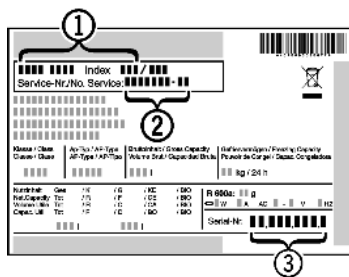

Fig. 52
- ▶ Read off the appliance name *Fig. 52 (1)*, service no. *Fig. 52 (2)* and serial no. *Fig. 52 (3)* from the model plate. The model plate can be found on the inside of the appliance on the left.